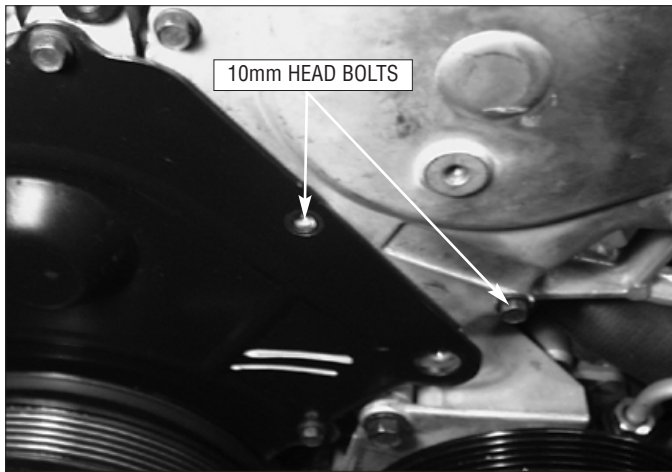

Fig. 7-1
- A. Remove the two 10mm Head Bolts and replace them with the Buttonhead allen bolts supplied with the mounting bracket assembly (P/N: 1016034). (See Fig. 7-1.)